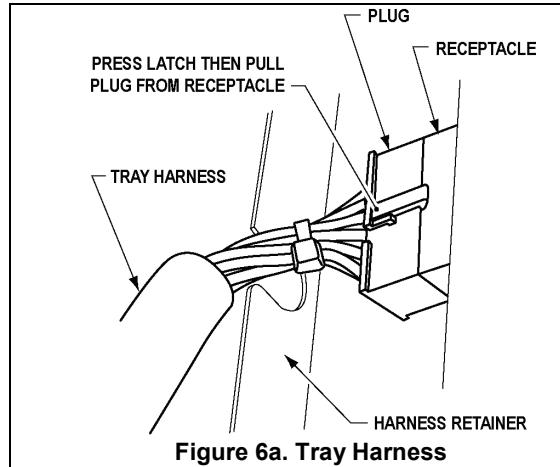

Figure 6a. Tray Harness
2. Disengage the tray harness from its harness retainer on the right side wall. See Figure 6a on page 8. Disconnect the tray plug from its receptacle on the right side wall.
8. Re-engage the tray harness into its harness retainer. See Figure 6a.
2. Locate the harness retainer on the right sidewall. See Figure 6a. Pull the tray harness out of the harness retainer.